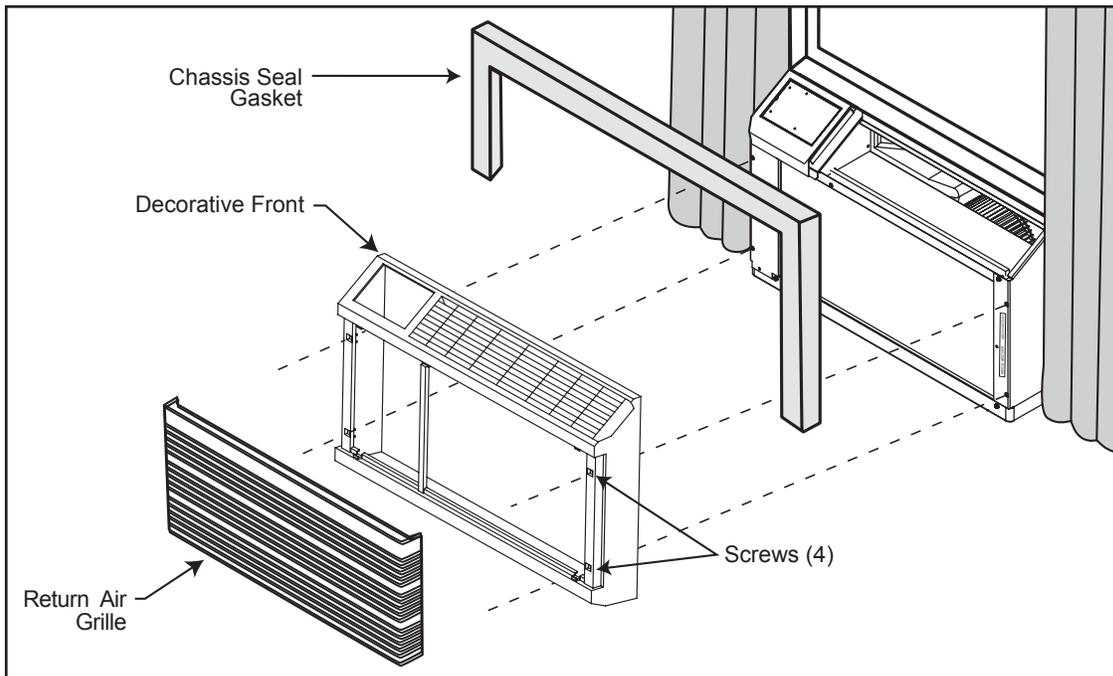

Figure 11
- Check the anchor screws. There should be four (4) in the WSC SLEEVE (two in each side).
STEP 5 CHASSIS SEAL GASKET INSTALLATION: After installing the shell, slide the chassis into the shell stopping approximately 3" from full insertion. Stuff the chassis seal gasket one inch deep between the chassis and the shell (see Figure 11). Make sure the gasket is installed beginning from the lower right side corner and extending over the top and down to the lower left side corner. Then push the chassis all the way into the shell for the remaining distance so that the plastic front meets the front edge of the shell.
STEP 6 Remove the intake grille from the decorative front frame by grasping it at the upper right and left side corners. Pull out until the grille is released from the upper retaining snaps. Tilt it down toward you, lift up and out of the bottom retaining snaps. Install the decorative front frame in place over the sleeve opening and attach it to the chassis with four sheet metal screws as shown in Figure 11. Replace the intake grille by positioning the bottom of the grille into the bottom retaining snaps. Tilt the front up and away from you. Press in lightly on top, and the grille will position itself into upper retaining snaps.